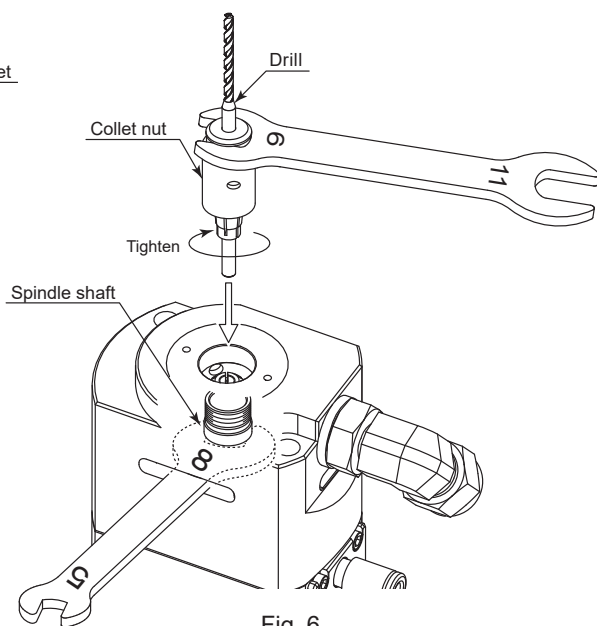

Fig. 6
- (2) Insert the drill into the collet, and attach the drill and the collet nut to the spindle shaft. (Fig. 6)
- (3) Place the provided 8mm wrench on the wrench flats of the spindle shaft.